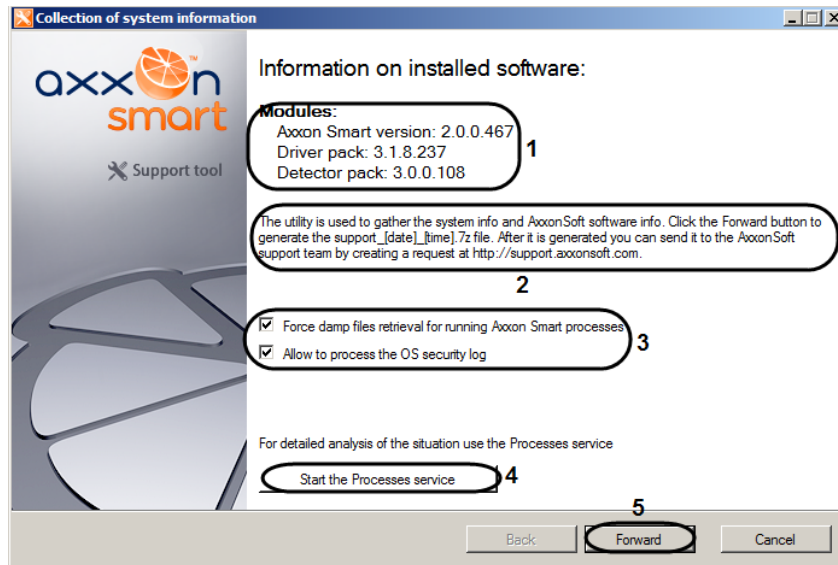

Fig. 8.1—2 Support.exe utility interface
5. A button which launches information collection (Fig. 8.1—2, 5).
The **Processes** service is used for detailed analysis of a situation. To launch it, click the **Start the Processes service** button; the **Processes** window will then appear displaying information about processes running on the computer initiated by the Support.exe utility (Fig. 8.1—3).